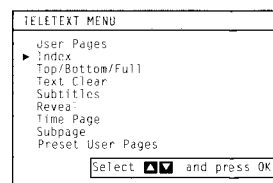

Fig. 38.
- 2 Using $\Delta+$ or $\nabla-$, select the teletext function you want and press OK. (See Fig. 38)